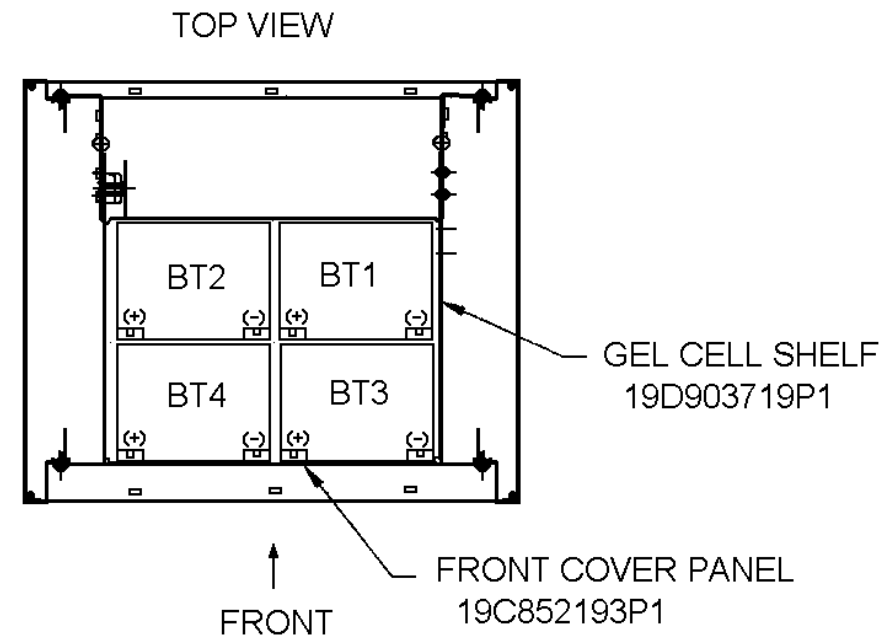

FIGURE 1
2. INSTALL BT1, BATTERY 19B209590P1, INTO GEL CELL SHELF 19D903719P1 AS SHOWN IN FIGURE 1. ATTACH A RED WIRE FROM HARNESS W8 (19C327801G1) TO THE "+" TERMINAL. ATTACH A BLACK WIRE FROM HARNESS W8 (19C327801G1) TO THE "-" TERMINAL.